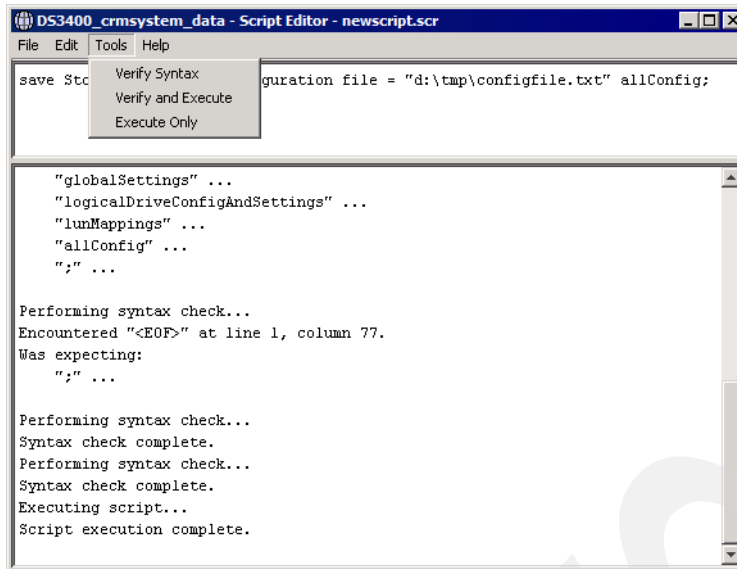

Figure C-3 Tools menu
3. Select **File** → **Save Script** and **File** → **Load Script** to save and retrieve script files that you create, respectively. The Tools menu includes options to verify the syntax and run the scripts, as shown in Figure C-3 on page 749.